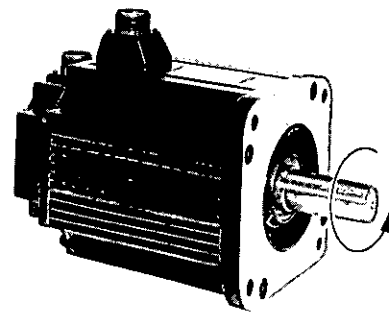

Fig. 11.2 Motor Forward Running
(1) Increase the speed reference voltage gradually from 0V, then the motor will rotate at a speed proportional to the reference voltage.
(2) When the reference voltage is positive, the motor rotates forward (counterclockwise rotation when viewed from the shaft extension.) (Fig. 11.2)